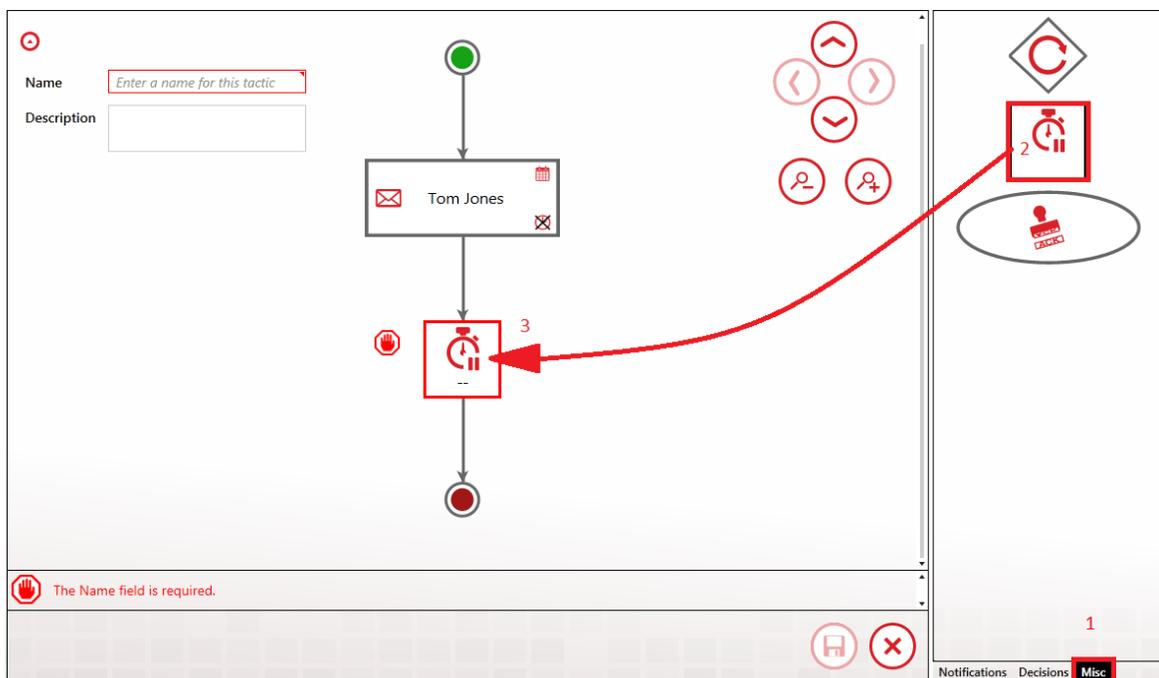

Figure 12: Adding Delay Block to Advanced Tactic
To add a delay (Figure 12) between Tom Jones notification and the next task, click the Misc tab (1) at the bottom right. The Misc panel with display and from that click and hold the Delay block (2) icon and drag-and-drop (3) it on the tactic beneath Tom's Notification block.